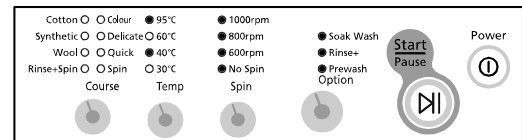
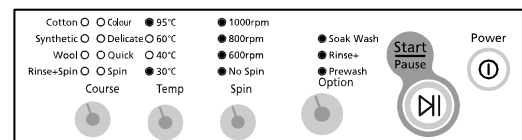

fig. 5
fig. 6
- Display shows such as fig.5 or fig.6